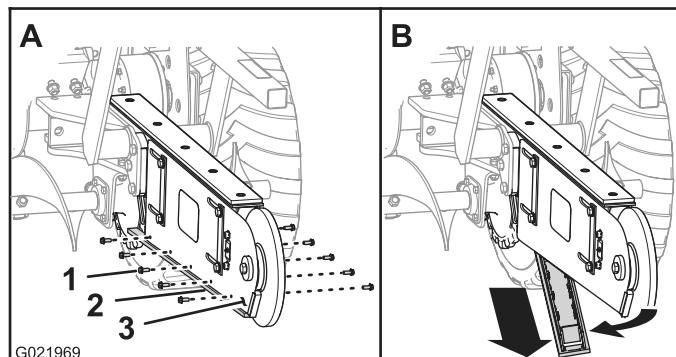

Figure 40
2. Remove the 10 bolts that secure the wear channel to the bottom left and bottom right sides of the boom (Figure 40).
3. Remove the trencher wear channel (Figure 40).
6. Align the holes of the new wear channel with the holes in the bottom left and bottom right sides of the boom (Figure 40).
7. Secure the wear channel to the bottom of the boom with the bolts that you previously removed (Figure 40).